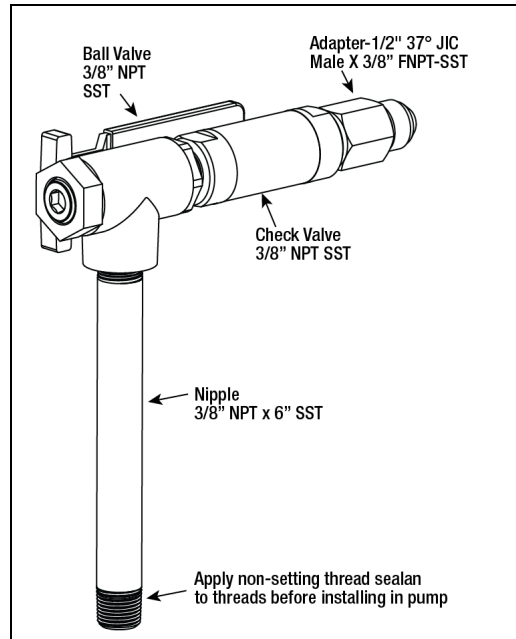

Figure 15. FE Petro STP Adapter Assembly
4. Get the STP Adapter Assembly from the kit (see Figure 15).